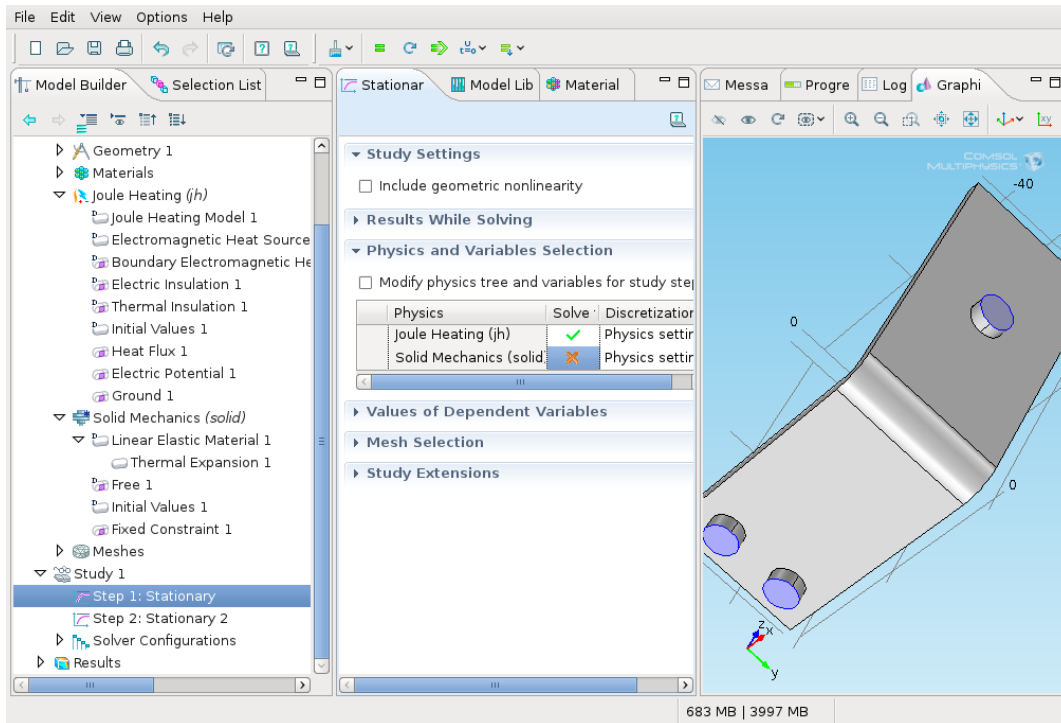

Figure 8: Removing the Solid State Mechanics from the first simulation step.
- 3 In the *Physics And Variables Selection* table click in the *Solve* cell of the *Solid Mechanics (solid)* row to turn the green checkmark into the red cross marking the removal of the *Solid Mechanics* from the first step (Fig. 8).